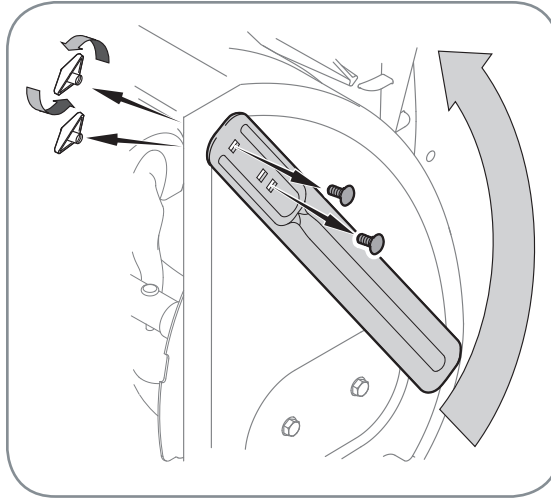

Figure 3-7
- On models so equipped, drift cutters and hardware are assembled to the auger housing inverted. See Figure 3-7.